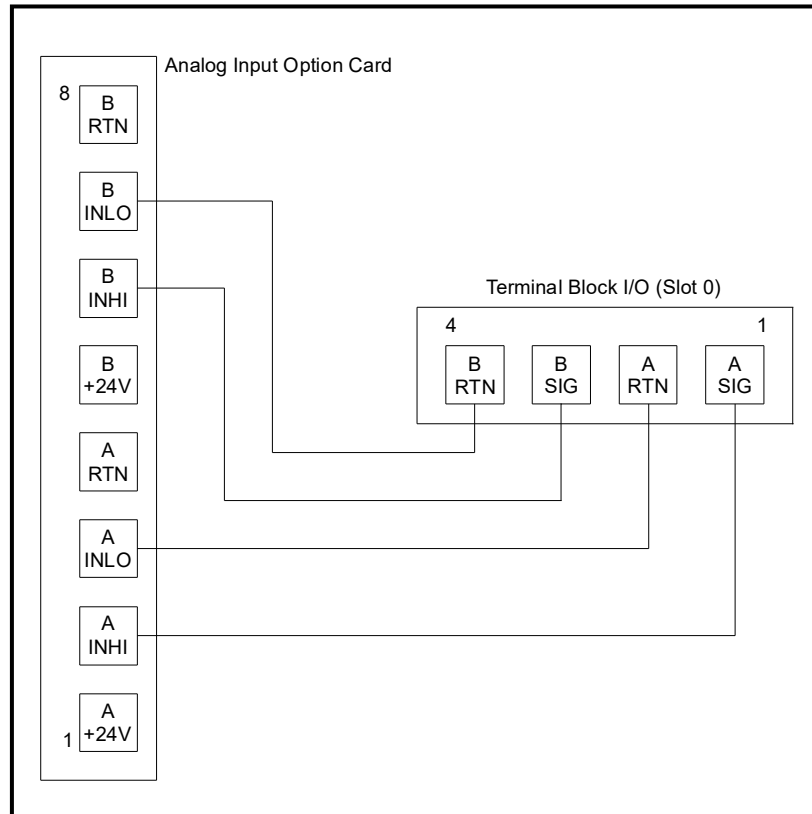

Figure 3: Analog Input Calibration Connections
Connect the **Slot 0** analog output(s) (or an independent calibrated current source) to the analog input(s) on the option card, as shown in *Figure 3* below. Refer to the menu map in *Figure 6* as a guide.
The procedure for calibrating **Input A** is identical to that for calibrating **Input B**. However, when calibrating **Input B**, be sure a calibrated current source is connected to the appropriate pins on the terminal block. See *Figure 3* for the correct pin numbers. To calibrate a 0/4–20 mA input card, see the section below.
1. Connect the 4 mA current source to the currently selected analog input, as shown in *Figure 3*.
1. Connect the 20 mA current source to the currently selected analog input, as shown in *Figure 3*.